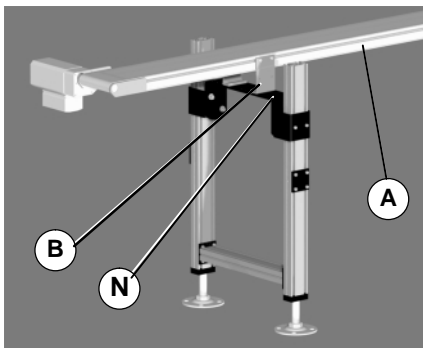

Figure 4
2. Attach conveyor (A of Figure 4) with mounting brackets (B) to stand base mounting bracket (N). Dependent on conveyor series, mounting bracket (B) may vary from those shown. See Conveyor Installation, Maintenance & Parts Manual for additional instructions. Repeat for each stand being installed.